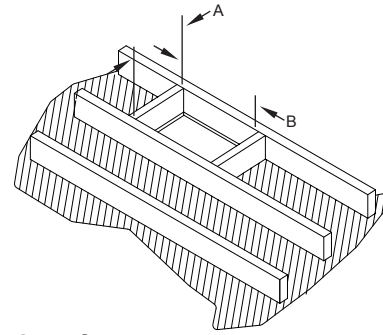

FIG. 1
2. Using framing lumber equal to ceiling joist size, frame ceiling opening as shown in FIG. 1 and TABLE 1.
5. Proceed to the next ceiling. If IHP Elbows are to be used because the chimney is to be offset, refer to "Installation of Elbows" section. Directly above the Center of the flue in the ceiling support, mark the ceiling. A plumb bob is normally used to find the center. Cut an opening in the ceiling using FIG. 1 and Table 1.